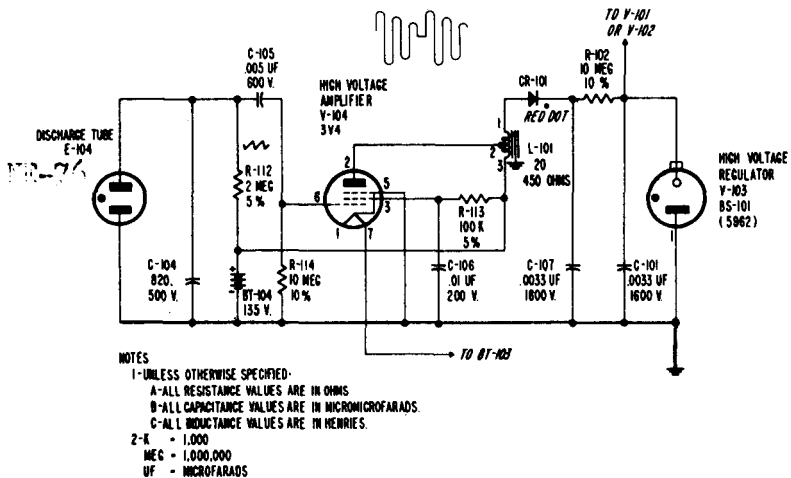

Figure 2-7. High Voltage. Power Supply Circuit
f. HIGH-VOLTAGE POWER SUPPLY CIRCUIT. (See figure 2-7.)—The high-voltage power supply circuit consists of a relaxation oscillator circuit, a power amplifier circuit, a rectifying and filtering circuit, and a regulating circuit.
(1) RELAXATION OSCILLATOR CIRCUIT. (See figure 2-7.)—In this circuit, +135-volt d-c power from **BT104** is applied through resistor **R112** to capacitor **C104**. Tube **E104**, a cold-cathode glow-discharge tube, is connected across **C104**. Capacitor **C104** charges slowly until it reaches a value equal to the striking voltage, approximately 90 volts, of **E104**. As soon as 90 volts is reached, **E104** conducts heavily and discharges **C104** almost instantaneously. Capacitor **C104** then starts to charge again, and the cycle is repeated as long as the equipment is operating. The sawtooth voltage across **C104** is coupled through capacitor **C105** to the control grid of **V104** in the high voltage amplifier circuit.
(2) HIGH VOLTAGE AMPLIFIER CIRCUIT. (See figure 2-7.)
(3) Rectifying AND FILTERING CIRCUIT. (See figure 2-7. )—In the rectifying and filtering circuit, the oscillations of **L101** are rectified. Half-wave rectification is provided by selenium rectifier **CR101**; the rectified voltage is filtered in a network consisting of resistor **R102** and capacitors **C107** and **C101**. The rectified oscillations provide approximately **900-volt** d-c power at the junction of **R102** and **C101**. This output is applied to the regulating circuit.
(4) REGULATING CIRCUIT. (See figure 2-7.)—The regulating circuit consists of resistor **R102** in series with corona-discharge tube **V103**. Tube **V103** functions in a manner similar to the standard gaseous discharge voltage regulator tubes, except that it regulates at 700 volts. Resistor **R102** limits the current through **V103**. Capacitor **C101**, in parallel with **V103**, bypasses noise and stray voltages induced in the wires. Regulated **700-volt** d-c power is fed from the junction of **R102** and **V103**, through **R101** in the detector circuit, to either **V101** or **V102**. Note that **R102** serves a dual function. It is common to the filter circuit and to the regulating-circuit.